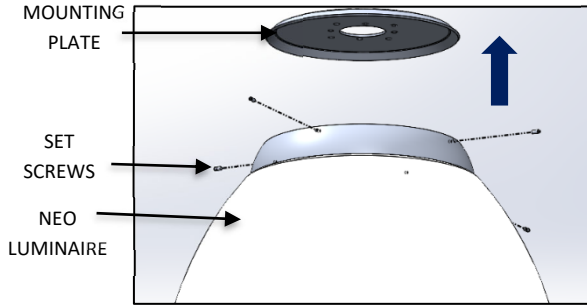

FIG. 4- MOUNTING PLATE DIS-ASSEMBLY
2. Unscrew SETSCREWS 4 places and remove the MOUNTING PLATE out of LUMINAIRE as shown in FIG 4.